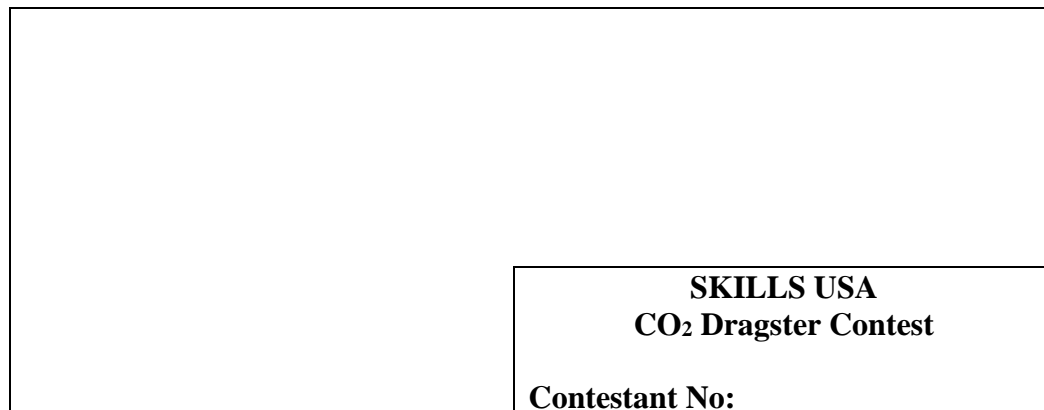

Figure 1
- e. Title block will include a space to enter the contestant number which will be assigned during your SkillsUSA chapter's registration. Record your contestant number (assigned upon registration) in this block prior to turn-in of your car and drawing. (See Figure 1 for example of sheet layout).